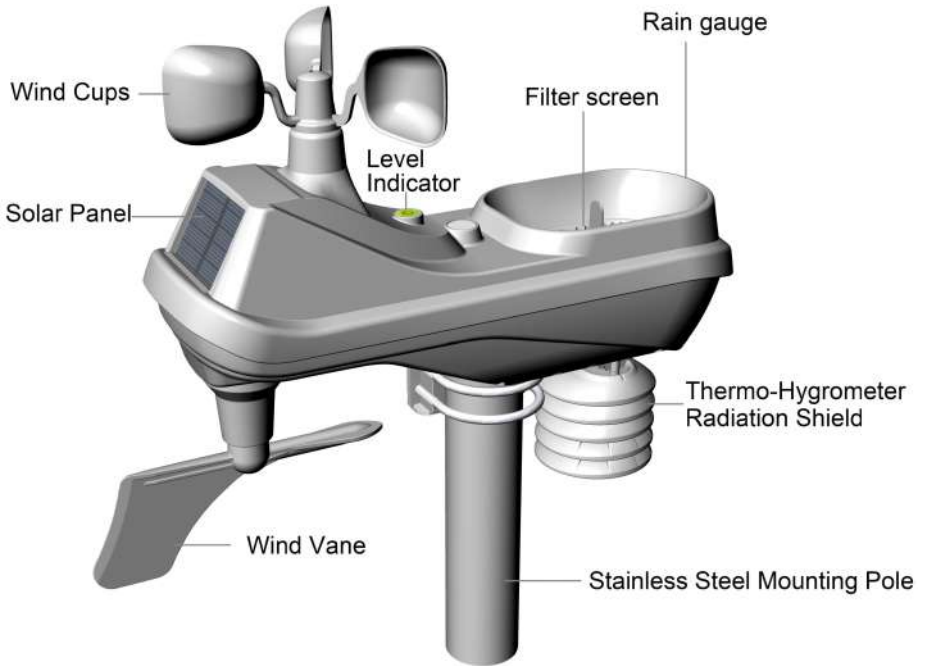

Figure 2
**Note:** The outdoor sensor array must be powered and updating before powering up the console, or the console will stop scanning and connecting with the sensors. The following illustration shows the full segment for Thermo-Hygrometer, WIND and RAIN sensor. purposes only ,as shown in Figure 2.